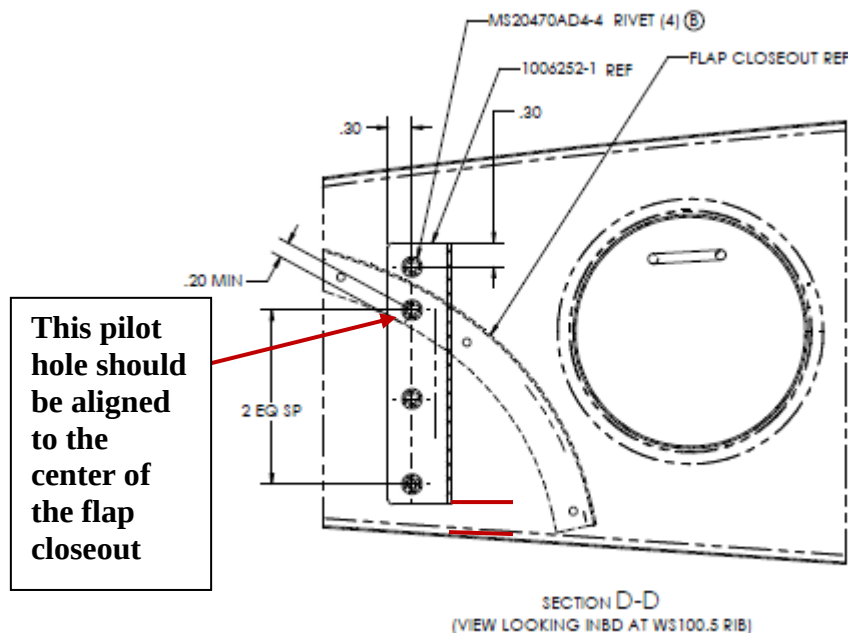

FIGURE 2-5 ROLL SERVO MOUNTING ANGLE INSTALLATION
8. The 1006252 Angle on WS 100.5 rib is depicted in Figures 2-5, 2-6, 2-8, & 2-10.
9. Using the 1006252 angle as a drill locator, drill four (4) #40 holes through the Angle and WS 100.5 rib as depicted in Figure 2-5 or 2-6.